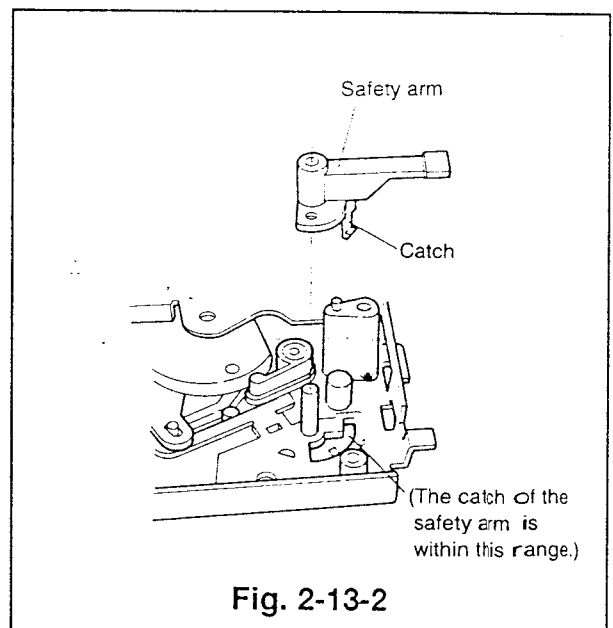

Fig. 2-13-2
- ① Reverse the deck and fix the safety arm to the shaft of the main plate so that its catch is within the range shown in Fig. 2-13-2.
- ② Install the safety spring and the safety lever. (Refer to Para. 2-12 for the installation method.)
- ③ Install the cassette housing. (Refer to Para. 2-1 for the installation method.)